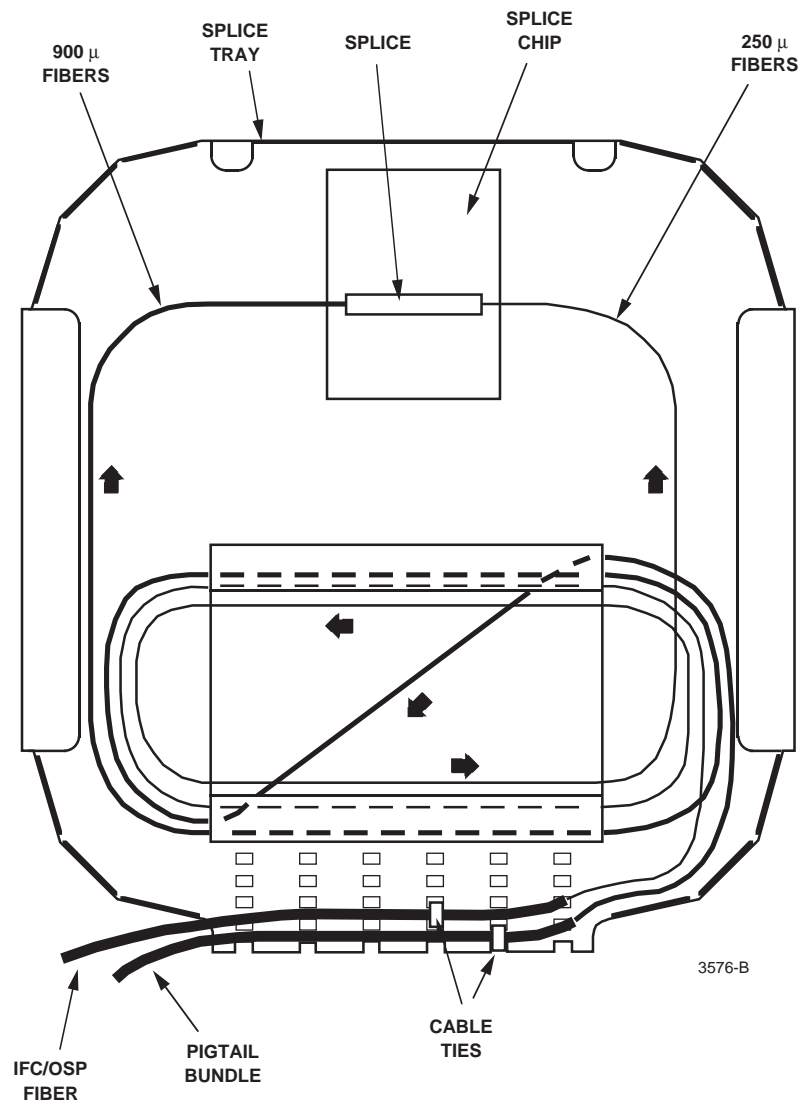

Figure 9. Fiber Routing in Splice Tray
6.03 Secure the fiber bundles to the splice tray with tie wraps as shown in **Figure 9**. The tie wraps should secure the protective sleeve or jacket but must not pinch the fibers.
6.04 Route the fibers on the splice tray as shown in **Figure 9**. The routing in the splice tray is dependent on the fiber entry direction (either from the left or the right).